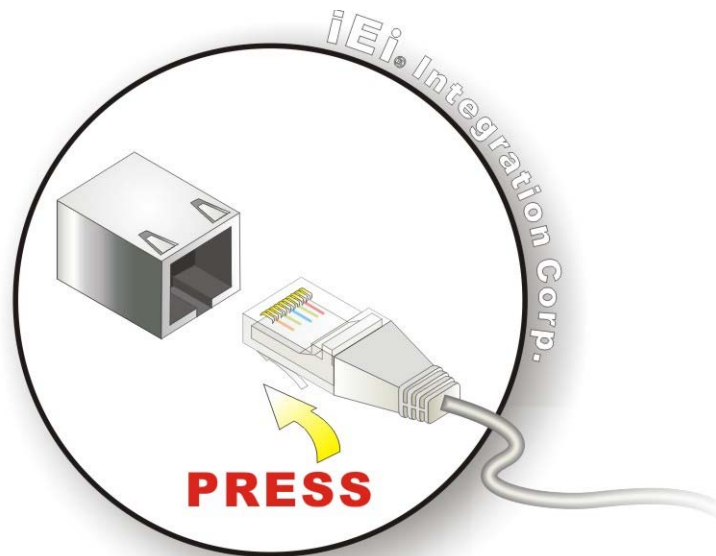

Figure 4-17: LAN Connection
Step 2: **Align the connectors.** Align the RJ-45 connector on the LAN cable with one of the RJ-45 connectors on the NANO-QM770. See Figure 4-17.